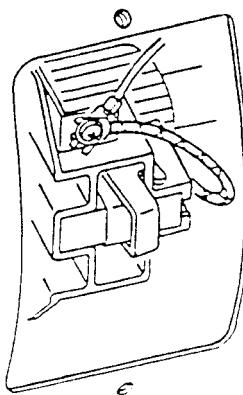

FIGURE 2
2. Push in the Spring Clip to unhook it and then pull it out. See Figure 2.